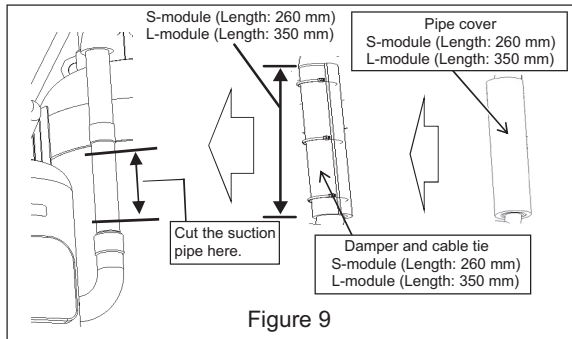

Figure 9
- (9) Remove the pipe cover and the damper, and cut the suction pipe where indicated in Figure 9.